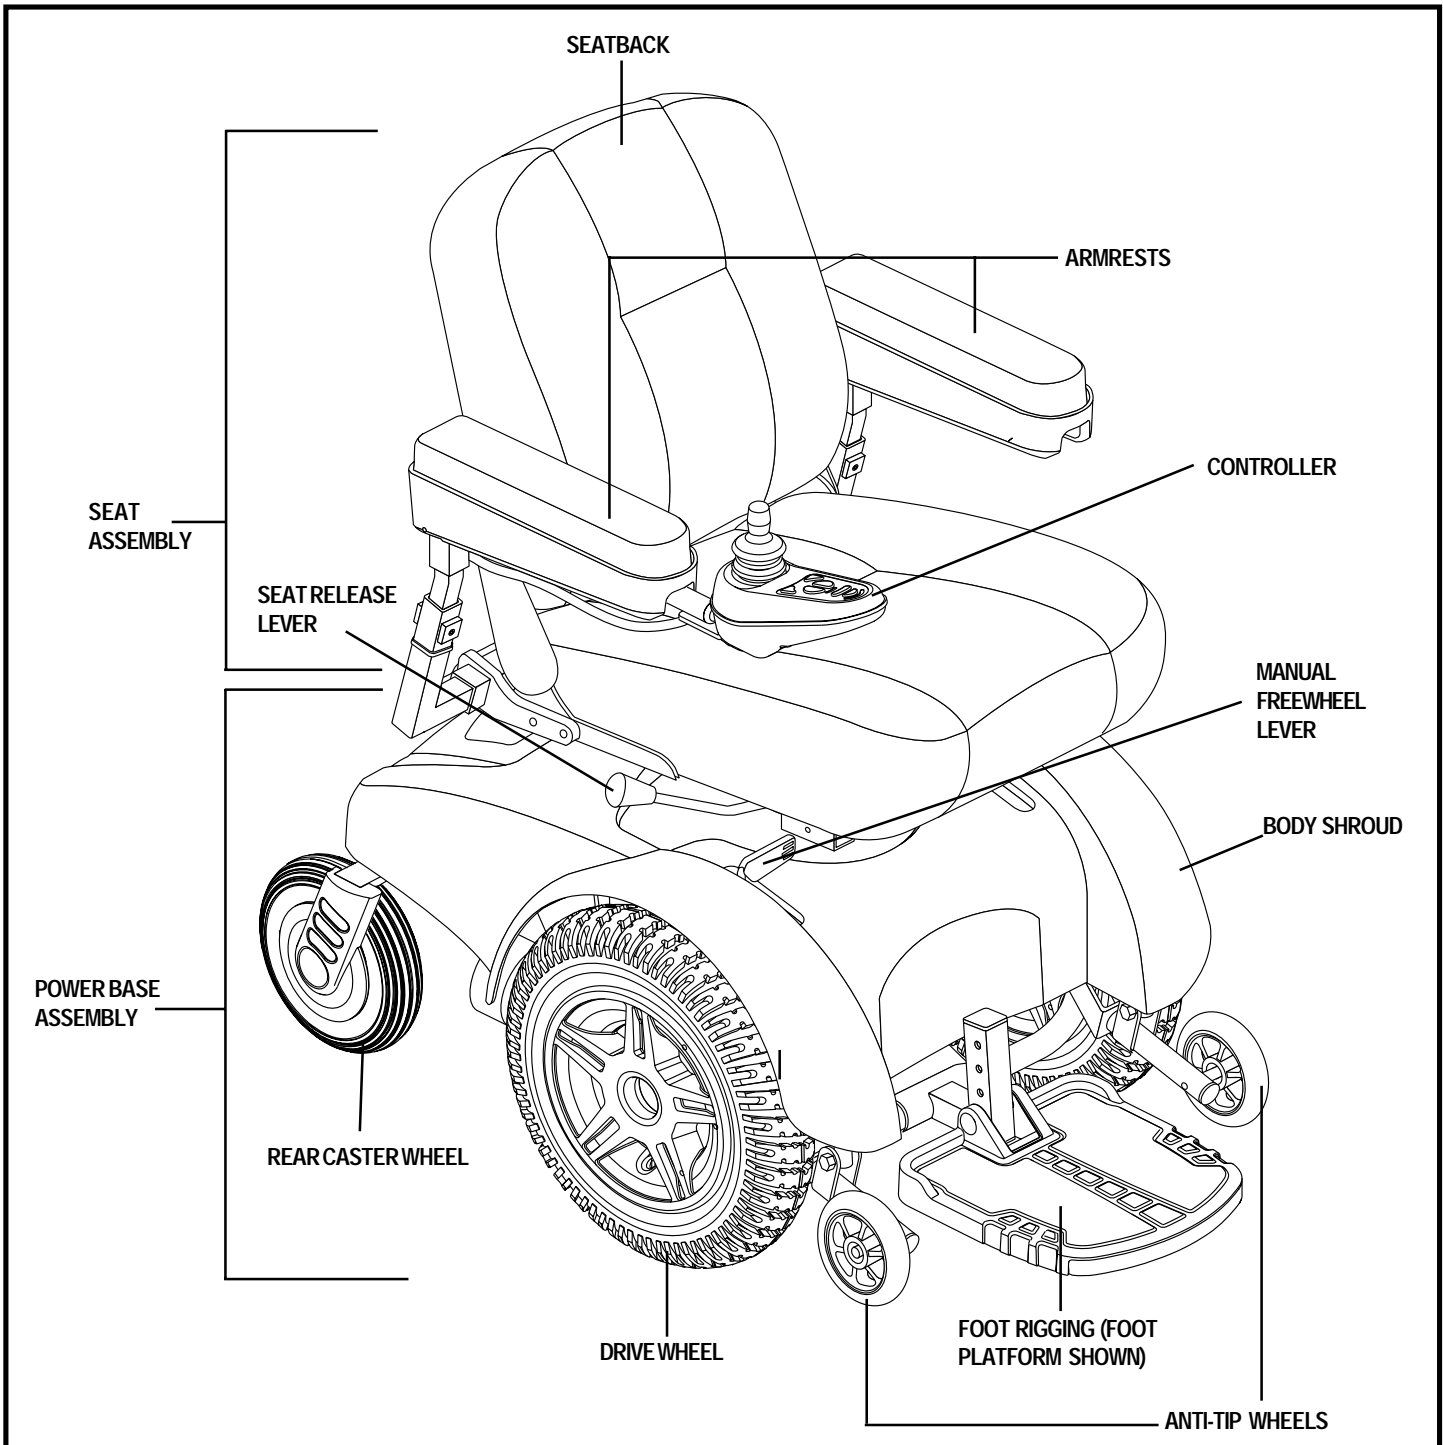

Figure 5. The Jazzy Select 14 Series Power Chair
Your power chair has two main assemblies: the seat and the power base. See figure 5. Typically, the seating system includes the armrests, the seatback, the seat base, and the controller. The power base assembly includes two drive wheels, two anti-tip wheels, two rear caster wheels, a body shroud, four frame assemblies (located under the body shroud), two battery boxes, and the electrical connectors. See figures 5 and 6.
4. Disengage the seat release lever. See figure 5.